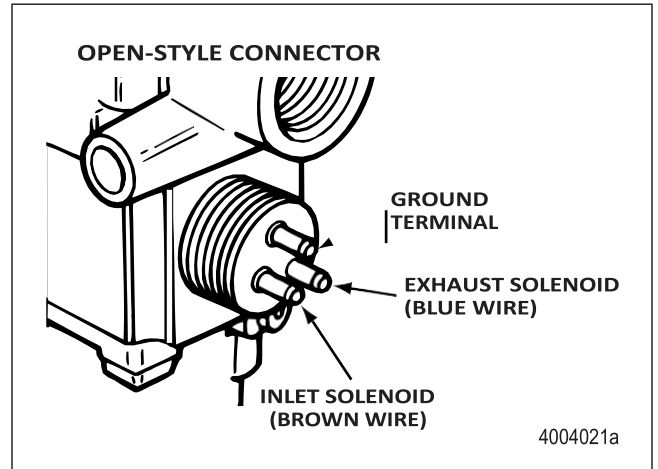
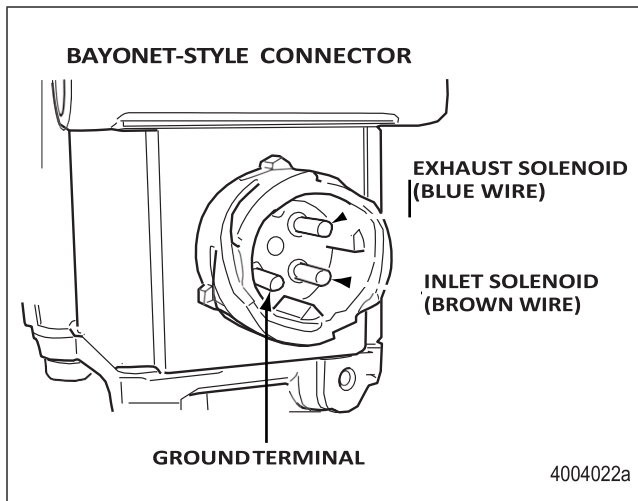

Figure 3.13
Figure 3.12
- Take measurements at the modulator pins directly to verify the component. Figure 3.12 and Figure 3.13.